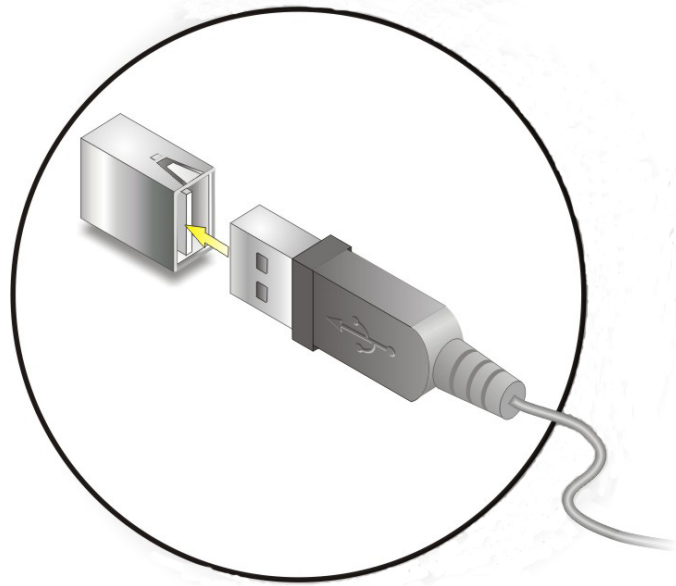

Figure 5-15: USB Device Connection
Step 2: Align the connectors. Align the USB device connector with one of the connectors on the 3308490. See **Figure 5-15**.